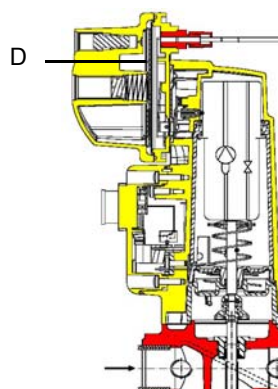

Fig. 12
**Caution:** the SKP2 diaphragm D must be vertical (see Fig. 12).